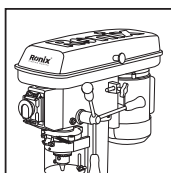

Fig7
■ INSTALL KNOB AND SCREW OF UPPER PULLEY COVER. (FIG 7)